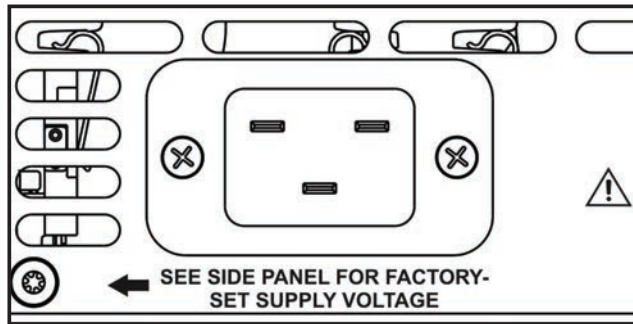

Figure 2.6 – Closeup of AC Mains Outlet
The power cord connects to a standard 20 amp 3-pin IEC-type male connector on the back panel (see **Figure 2.6**). Make sure the Breaker/Switch on the front panel is switched to the OFF (O) position. Make sure the power cord is inserted and seated fully into the IEC connector by moving it slightly back and forth and up and down while pushing in. The power cord is relatively stiff and should be routed so that there is no excessive force pulling to the sides or up or down that would stress the pins or internal connections. Tighten the cord strain relief screw to lock the power cord in place.